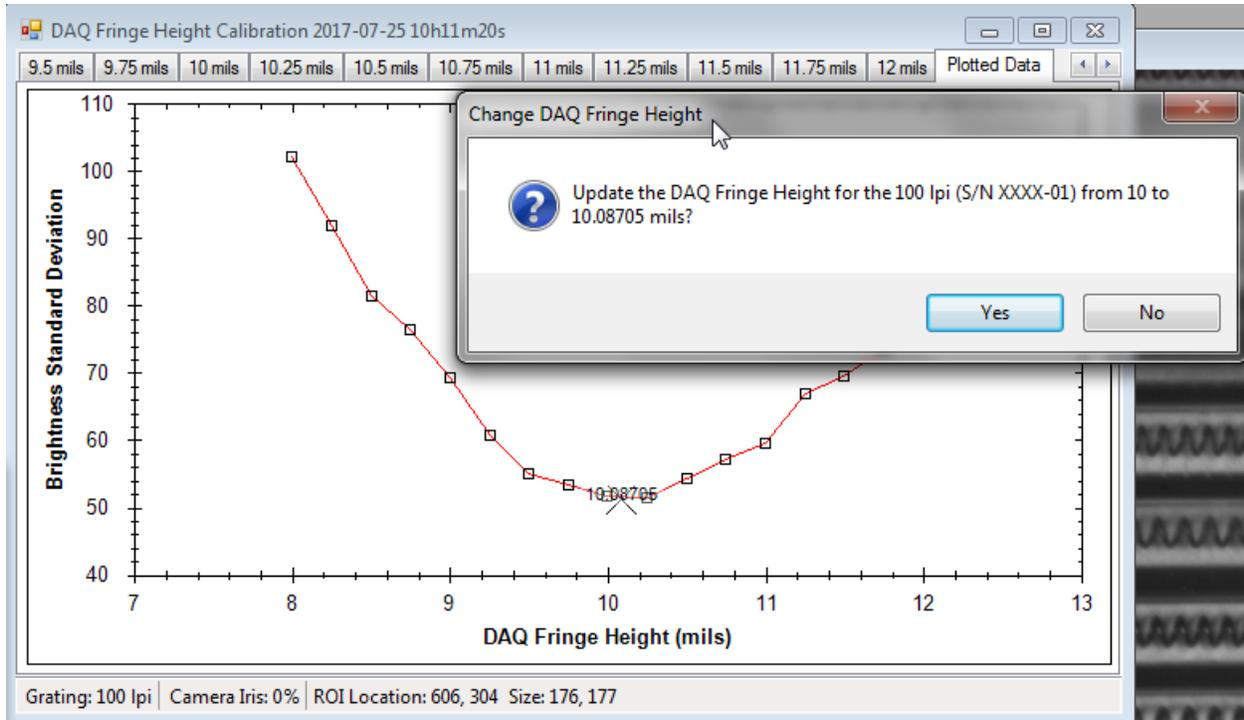

Figure 2.36 DAQ Fringe Height Cal Dialog
3. Right click to select **Start Calibration...** from the Camera window context menu. A series of images is taken with different step heights to determine the best calibrated phase step distance, or **DAQ Fringe Height**. While the images are being taken a dialog (see **Figure 2.36**) pops up showing the captured images and a plot of the intensity standard deviation for each step height trial.